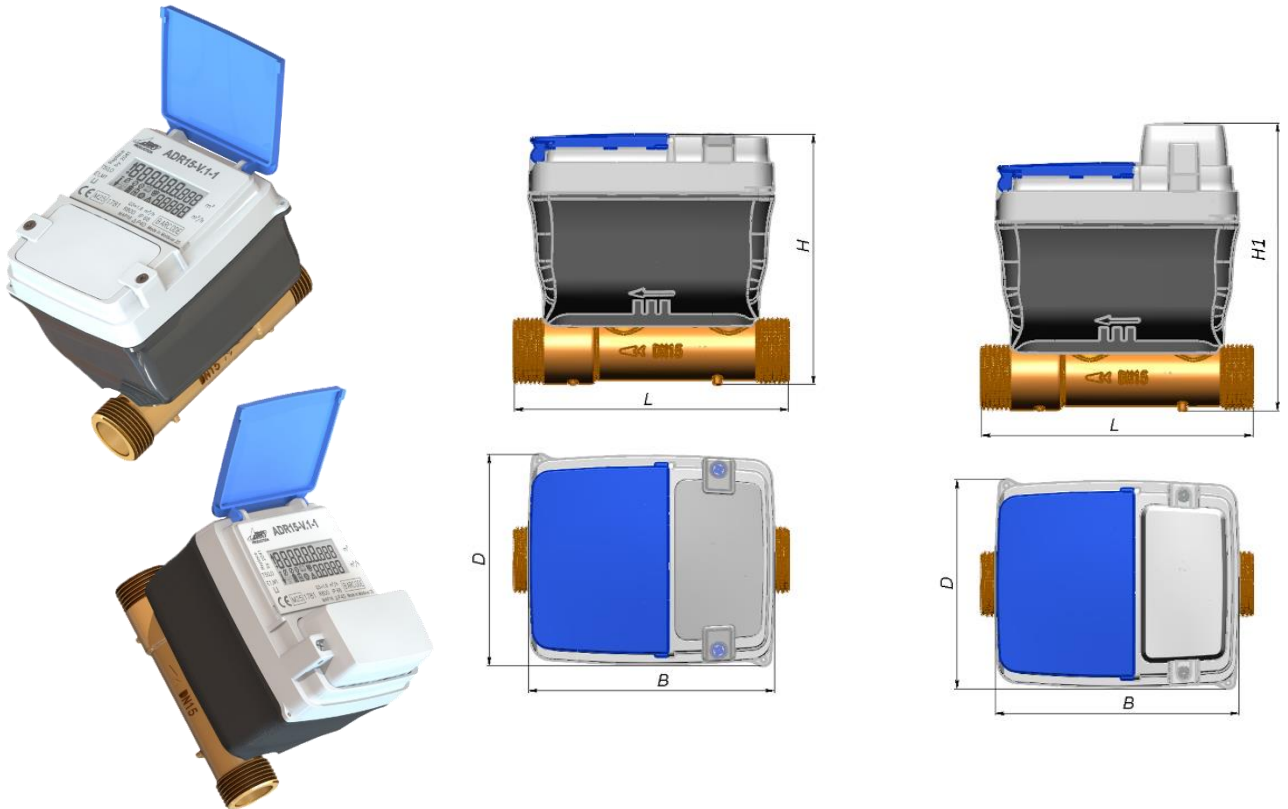

Fig.2. ADRV general view with/without the external power source and overall dimensions
Overall dimensions of the ADRV are presented in Figure 2:
A sealing point (pos.1 in Fig.2) on the ADRV case is provided to install metrological/manufacture’s seal. In addition, the ADRV can be optionally sealed according to local requirements (pos.2 in Fig.2).
During the meter installation, pay attention to the flow direction, which is indicated by an arrow on the meter side (see Fig. 2).